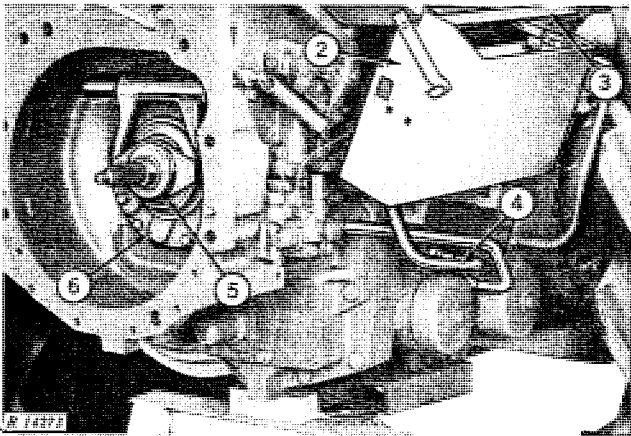

Fig. 8 - Left Side of Clutch Housing
5. Disconnect the clutch rod (Figs. 8 and 9). Remove clutch fork shaft retainer, shaft, fork, and bearing carrier.